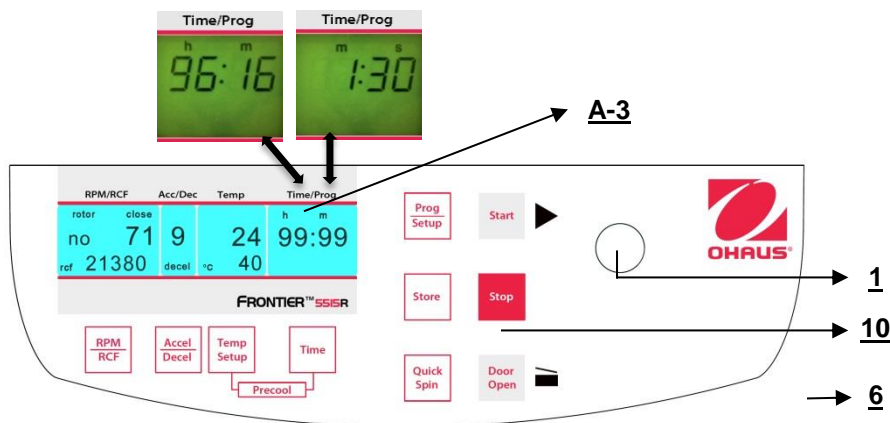

Figure. 17
3. The continuous run "**cont**", which can be interrupted by the key "**Stop**"(10) (refer to figure 17).
The display always shows the remaining running time. (See figure 17)